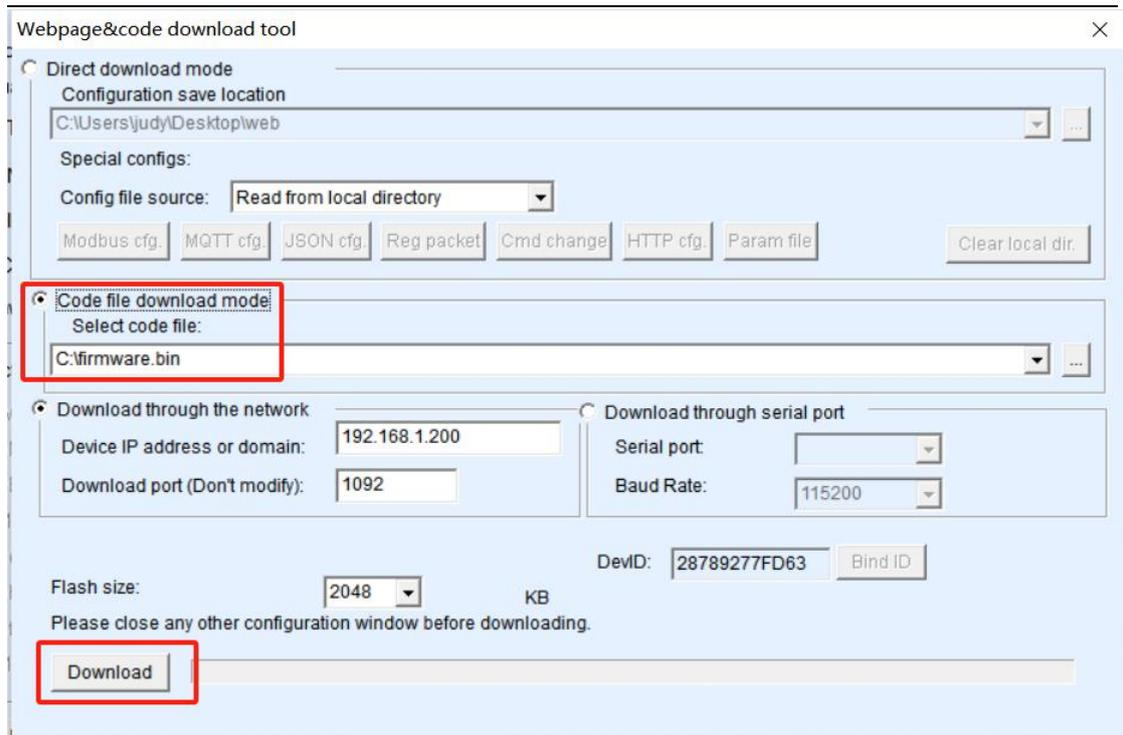

Figure 50 ZLSN2007 firmware upgrade method
- 3 Select the "Program File Download" option, as shown in Figure 50. In the program file, select the firmware file. The IP address of the serial port server is automatically filled in, and the module type/model is automatically selected. Then click Download.